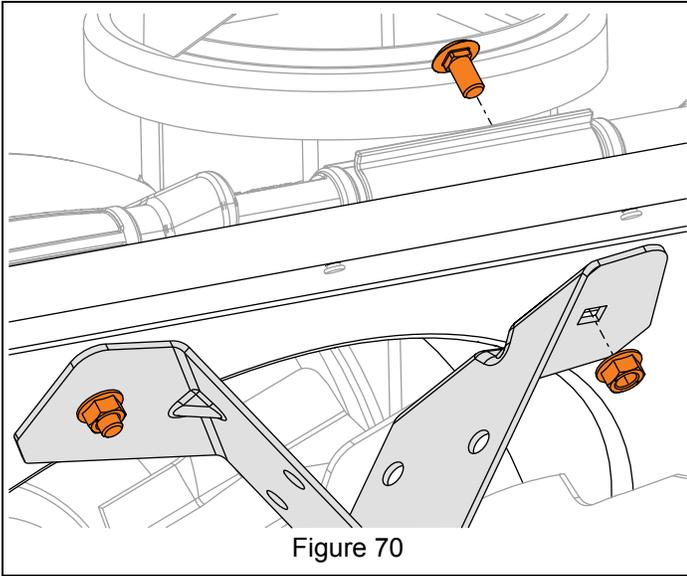

Figure 70
- Secure support brackets to auger housing with original round head square neck bolts and top locking flange nuts. See Figure 70.